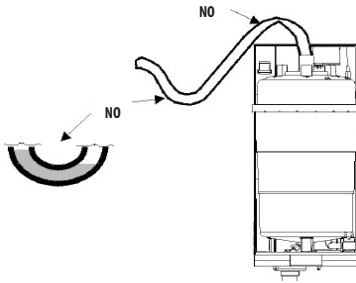

Fig. 63 Unacceptable cross-sectional constriction
7. When routing the supply lines of the lances, it is not allowed to create a trap and to narrow the cross-section Fig. 63.